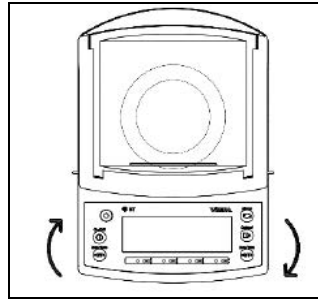

Figure 2-2. Unlock feet/adjusters
1. Turn the feet/adjusters several times as shown in Figure 2-2 to unlock them.